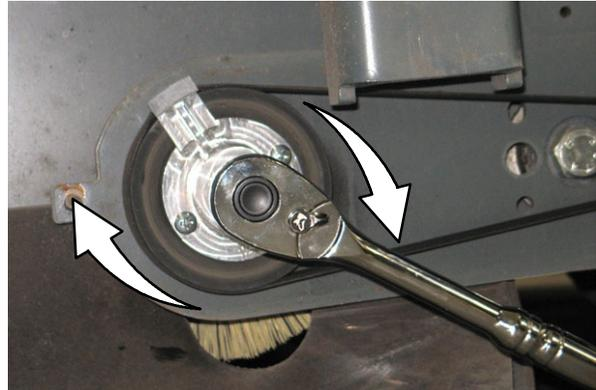

FIG. 4
5. Position the new sweep brush drive belt (1) onto the small sweep brush sheave and then position the belt onto the belt installation tool (2) installed on the large sweep brush sheave.
6. Turn the belt installation tool (2)/sheave clockwise to install the belt onto both sheaves. (Fig. 4)